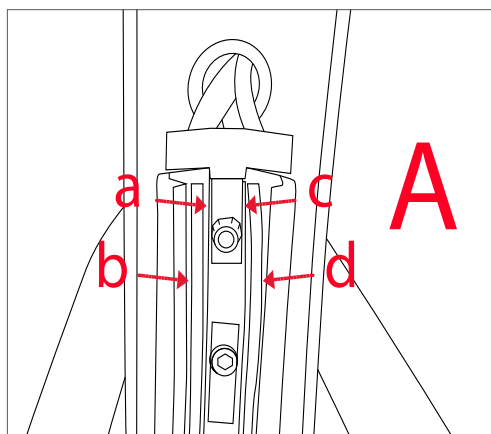

Figure 4.51 Cable location in tunnel
1. Insert the cables into the tunnel per Figure 4.51: